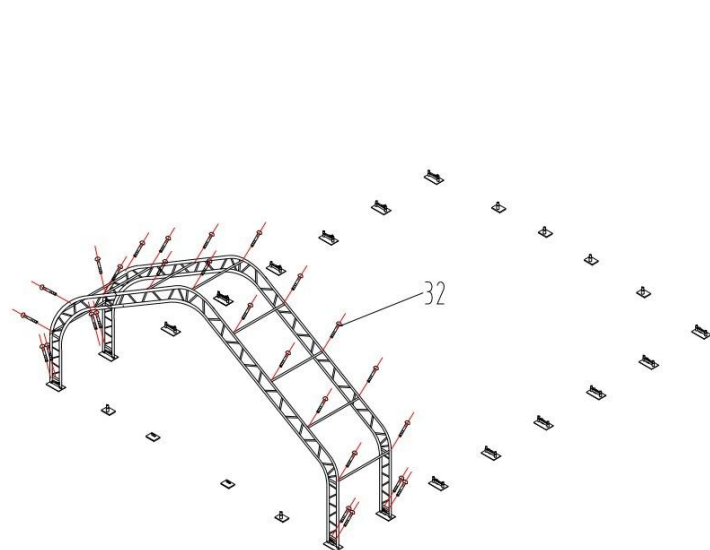
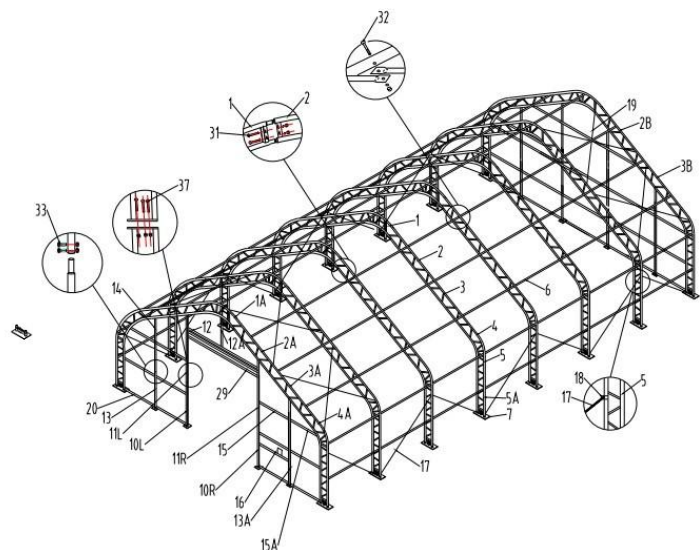

Figure 5
Figure 6
3. Connect Purlin (No. 6) to arch by using Bolt 10x80 (No. 32) by turns (see Figure 5), then connect the Steel wire (NO. 17 and NO. 19) on top and side by using Clip (No. 18) (see Figure 6).